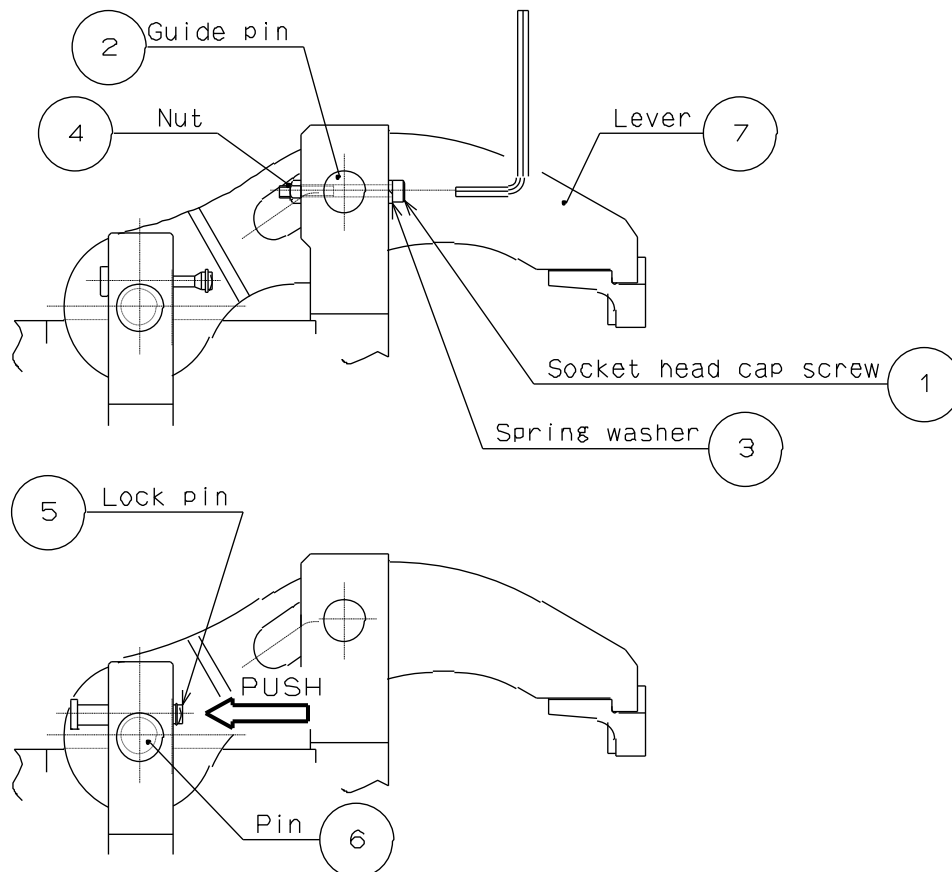

Fig.6
3. Loosen the socket head cap screw [5] and slide the plate [6] as shown in Fig.6.